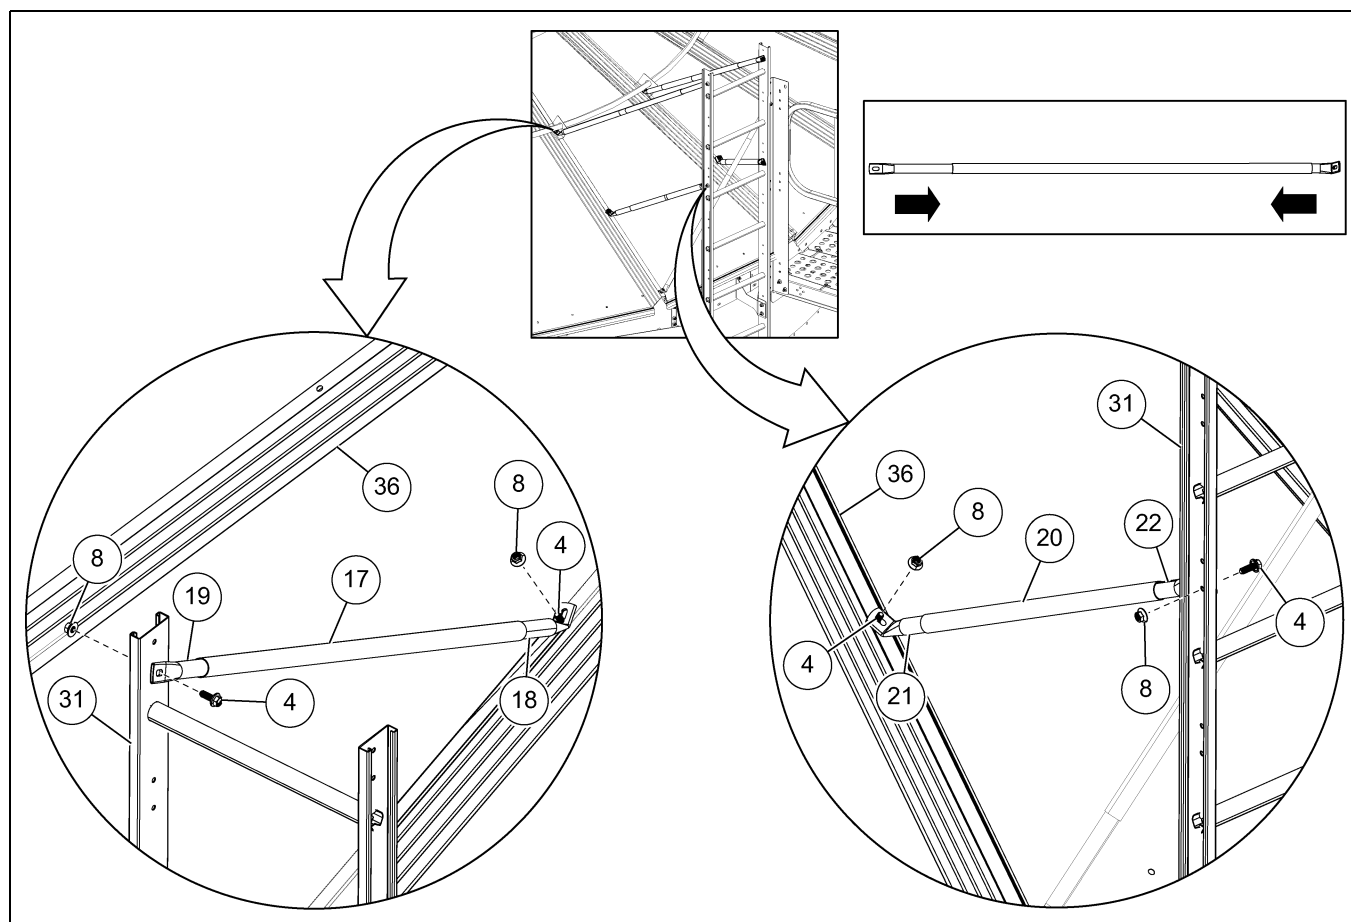

Figure 7D Installing the Ladder Braces
1. Install two sets of long ladder braces: Attach one smaller tube (19) to the top of the ladder rail (31) and attach the other smaller tube (18) to the roof panel (36). *(See Figure 7D.)*
2. Install two sets of short ladder braces: Attach one smaller tube (22) to the ladder rail (31) and attach the other smaller tube (21) to the roof panel (36). *(See Figure 7D.)*